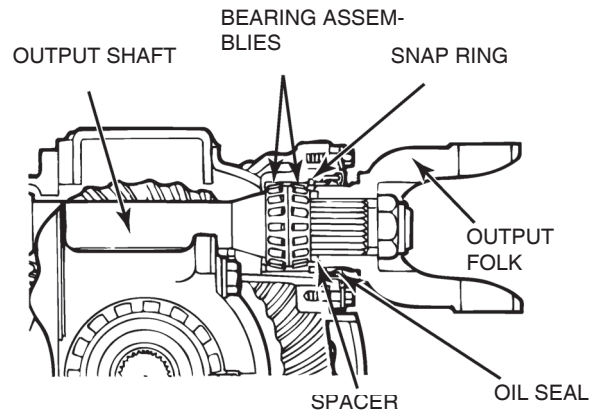

Figure 3.11
1. Remove and discard the original oil seal. Use a new oil seal when the differential is assembled Figure 3.11